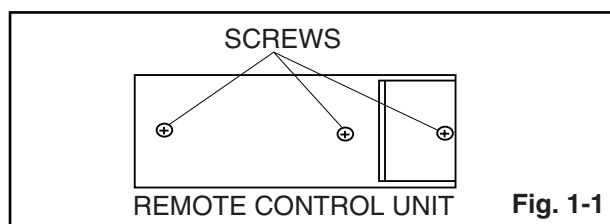

Fig. 1-1
1. Prepare normal remote control unit. (Part No. N0138UD, N0139UD or NE143UD) Remove 3 Screws from the back lid. (Fig. 1-1)